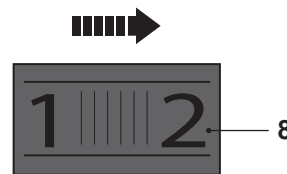

Fig. 14
- > Turn the speed dial (8) right (as seen from the operator's position) to decrease the maximum speed (Fig. 14). A lower setting is suitable for sanding with coarse-grained sanding belts to remove paints and varnishes.